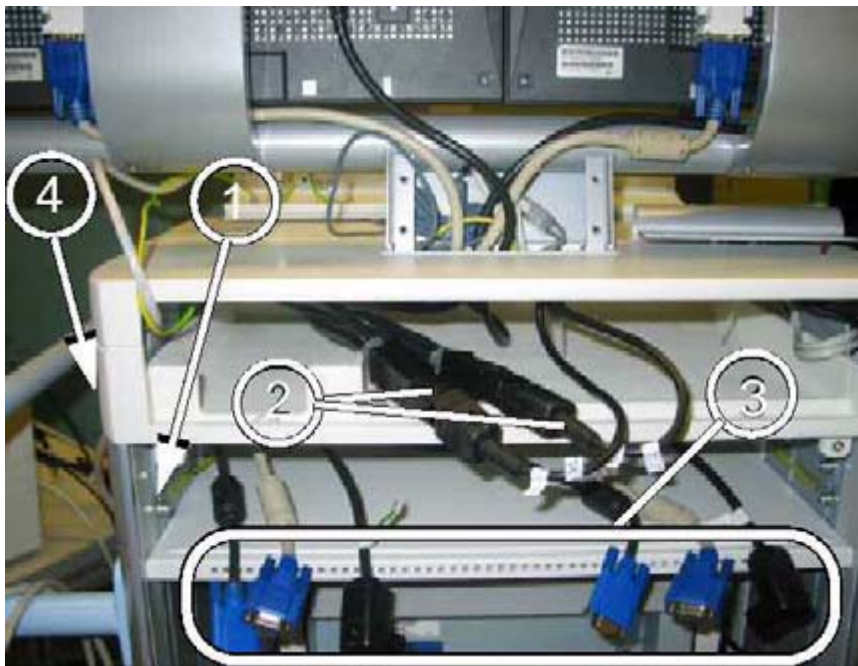

Fig. 2: Cables
1. Remove the rear and side covers of the monitor trolley (already performed in \(Fig. 2 / p. 6\) and \(Fig. 3 / p. 7\)).
2. Check if the space of 4 mounting holes (1/Fig. 2 / p. 6) is available at the slot. If not, displace the panel because the space is necessary for the video splitter.
3. Disconnect the power cable from the live monitor and reference monitor (if option is available) and pull this cable back to the location shown in \(2/Fig. 2 / p. 6\).
4. Use the supplied kit to run the power cables as shown in \(\(4/Fig. 2 / p. 6\) and \(Fig. 3 / p. 7\)). The angle plug must be inserted into the round cable duct inlet as shown in \(Fig. 3 / p. 7\).
5. Pull the angle cable plug of each distributor cable to location \(3/Fig. 2 / p. 6\).
6. Connect the distributor cable (straight plug) to the disconnected power cable of the monitors \(2/Fig. 2 / p. 6\).
7. Connect the 2nd piece of the distributor cable (straight plug) to the corresponding monitor as shown in \(Fig. 2 / p. 6\).
8. Disconnect the monitor VGA cable from the live monitor and reference monitor (if option is available). Pull the cable(s) back to the location shown in \(2/Fig. 2 / p. 6\)
9. Use the supplied kit to pull the VGA cable(s) from location \(3/Fig. 2 / p. 6\) to the monitor(s) and connect it/them to the monitor(s). Run the cables as shown in \(Fig. 3 / p. 7\).